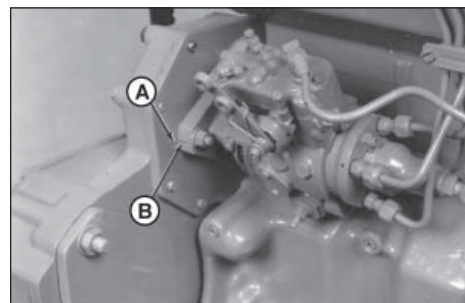

Figure 25 Reproduced by permission of Deere & Company, c.2005. Deere & Company, All rights reserved.
9. Align timing mark on the pump flange (Figure 25-B) with timing mark on the cylinder block front plate (A).